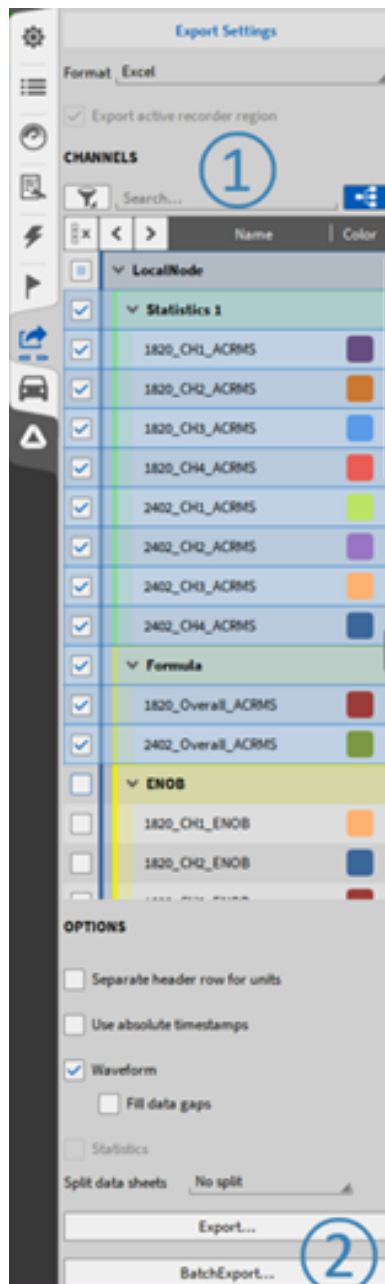

Fig. 11.21: Export menu
Select the desired export format (including the individual options) and the channels to be exported (see ① in Fig. 11.21). Press the Batch Export button next (see ② in Fig. 11.21).